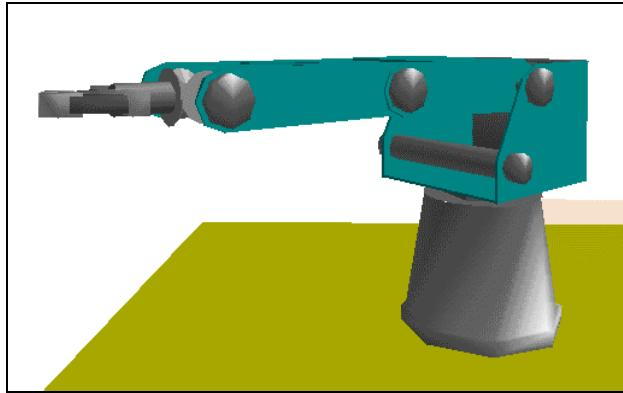

Figure 3-3: Position #2
- 6** Turn the base axis about 45° , as shown in Figure 3-3, and record this as position #2.